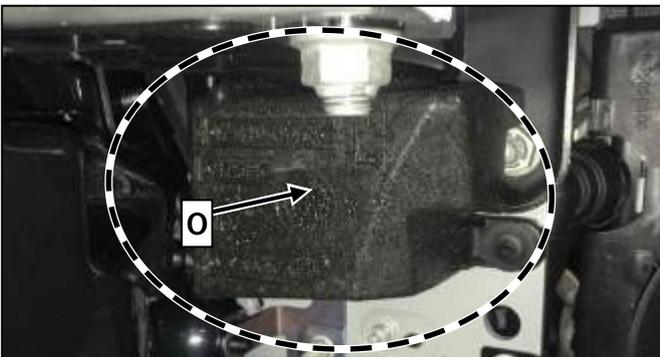

Figure 16
16. Reattach impact foam on left and right (O, Figure 16).